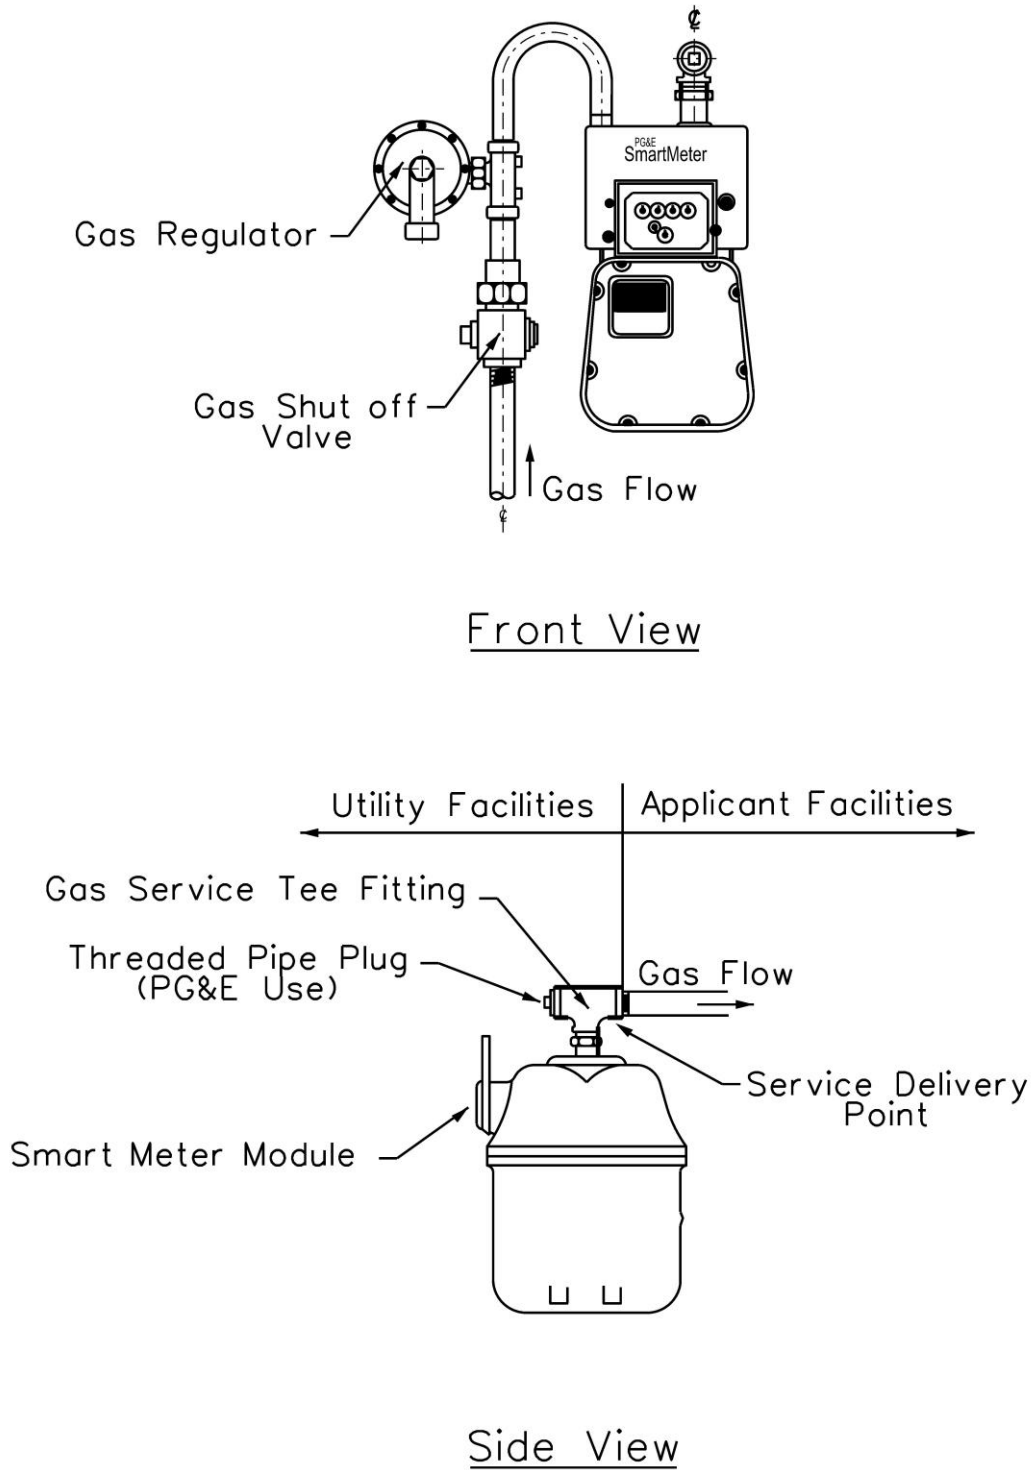

Figure 5. Typical Residential/Small Commercial Meter
- (a) All customer-installed equipment must be installed downstream of the Company point of connection as shown in Figure 5. Customer-installed equipment may include: earthquake valves, seismic shutoffs, remote monitoring equipment, or flex hoses. Any customer-installed equipment on Company facilities must be removed at the customer's expense.